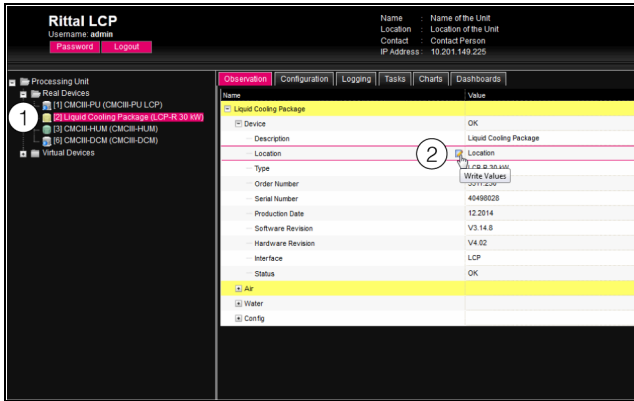

Fig. 110: Selecting an individual parameter
- One after the other, open the "Liquid Cooling Package" and "Device" entries by clicking on the "plus" symbol in front of the entry (fig. 110, item 1).
- Position the mouse pointer at the end of the first column in the "Location" line (fig. 110, item 2). An "Edit" symbol will appear, and the mouse pointer will change to a "Hand" symbol.